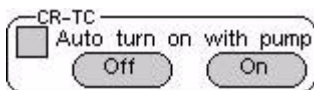

Figure C-17. Eluent Generator Page: CR-TC Controls
- To manually control the CR-TC power, touch the **CR-TC Off** and **On** buttons on the **ELUENT GENERATOR** page (see Figure C-17).